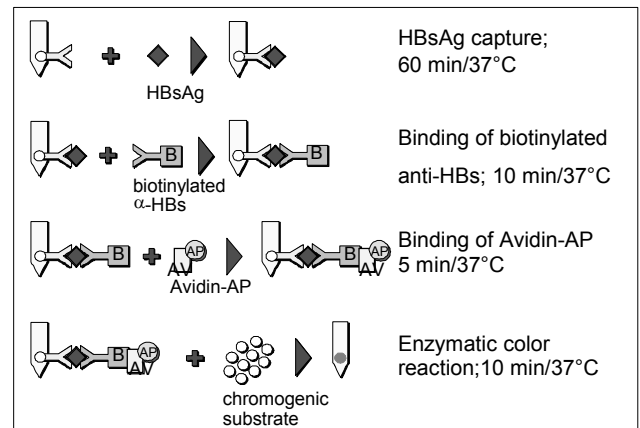

Figure 1. Principle of the Test
To start the test, serum or plasma specimens are filled in the wells of row A of the Developing Plate. Following this step, 20 µl of sample diluent is added to each of the wells in row A. The Card is then inserted in the wells of row A. HBsAg, if present in the specimens, will be captured by the anti-HBs antibodies on the lower spot on the teeth of the Card (Figure 1). Unbound components are washed away in row B. In row C, HBsAg captured on the teeth, will react with biotinylated anti-HBs antibodies. In row D the biotinylated antigen/antibody complex on the lower spots of the teeth, and biotinylated bovine serum albumin on the upper spots (Internal Control), will react with avidin labeled with alkaline phosphatase (AP). In row E unbound components are removed by washing. In row F, the bound alkaline phosphatase will react with chromogenic components. The results are visible as gray-blue spots on the surface of the teeth of the Card.